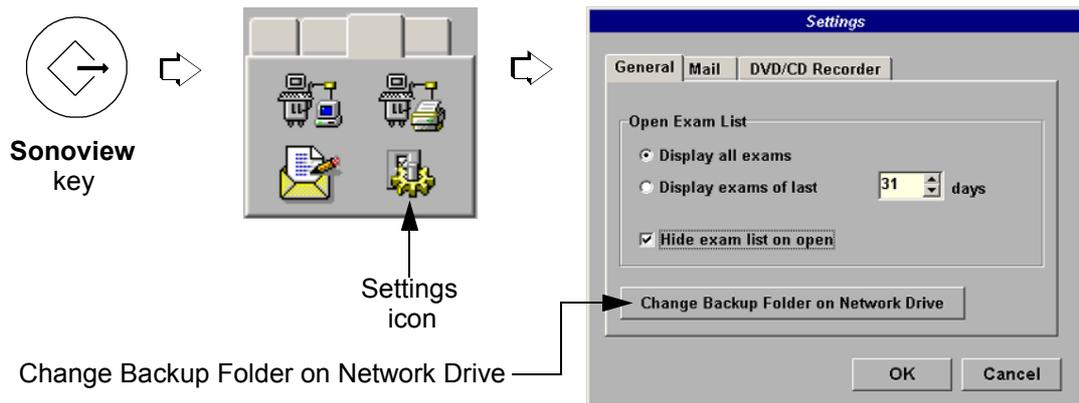

**Figure 8-19 Backup Folder on Network Drive**
- 8.) In the displayed window click on the CHANGE BACKUP FOLDER ON NETWORK DRIVE button. The first line in the dialog (see: Figure 8-19) displays the name (e.g., serial number A09008) of the “Backup Folder” used for storing data on, and reading data from the network drive.